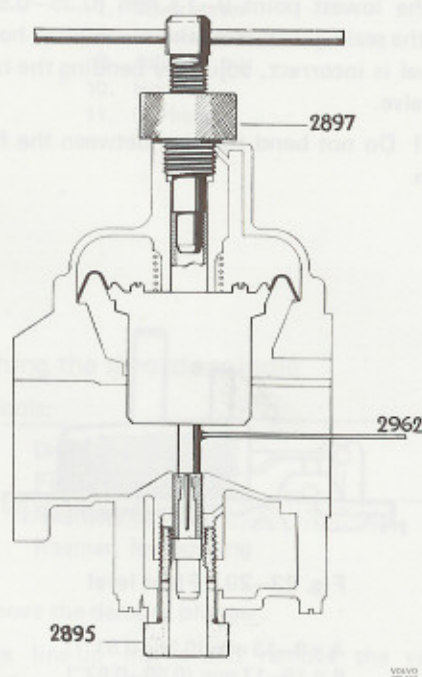

Fig. 23-26. Replacing the fuel jet
2. Fit press tool 2895 in the lower part of the carburettor and screw out the tool centre bolt, Fig. 23-26.